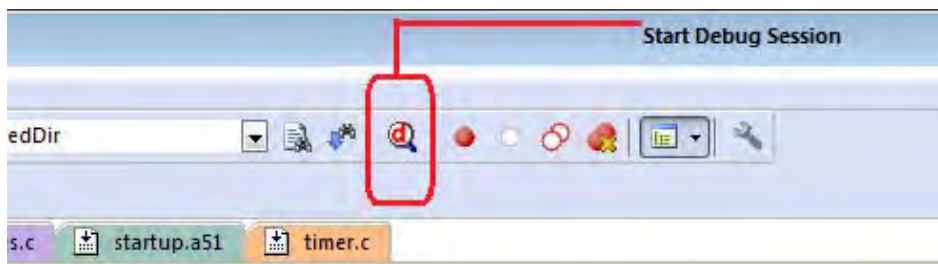
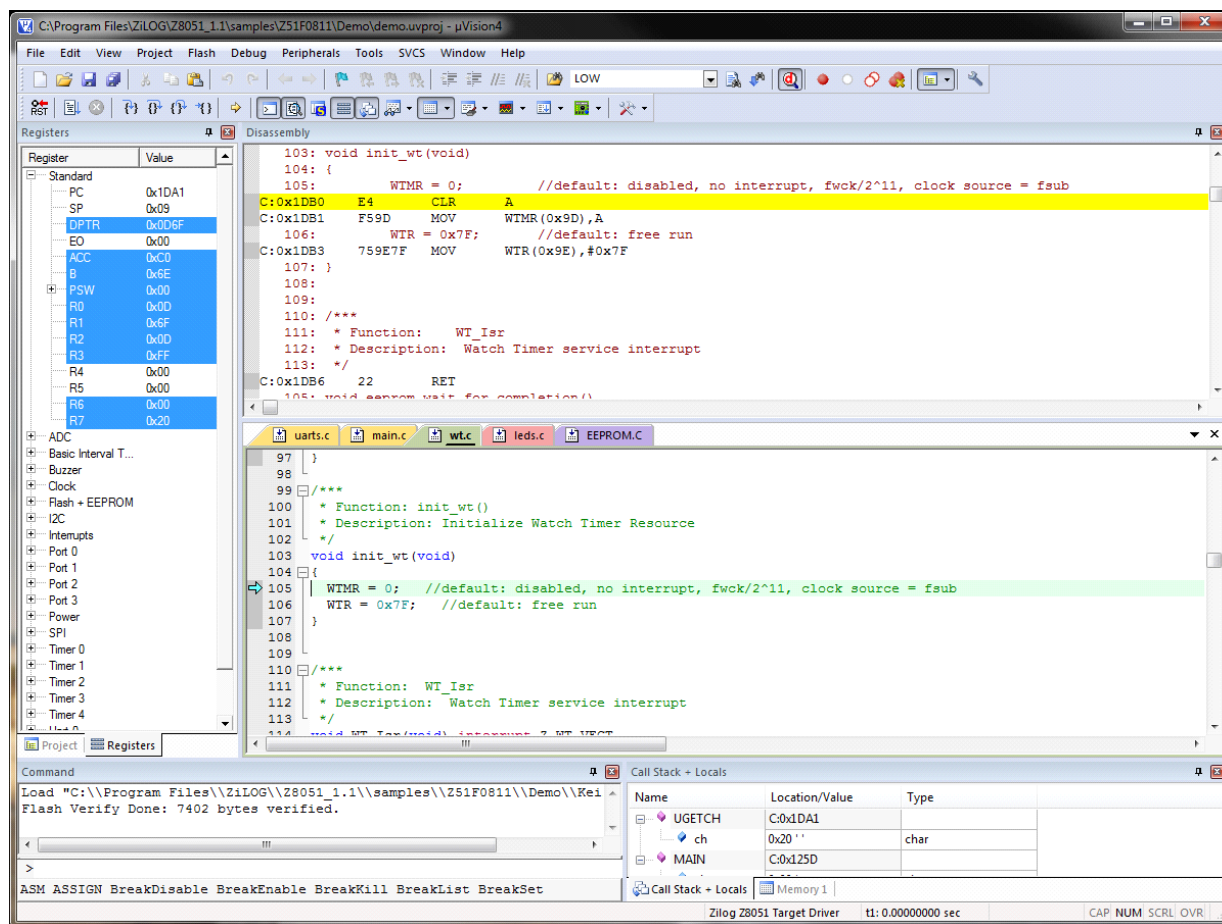

Figure 29. Beginning a Debug Session
Figure 30. A Default Debug Session
- Start your debugging session by clicking the **Start/Stop Debug Session** icon, as indicated in Figure 29. A default Windows configuration of the debug session is shown in Figure 30.